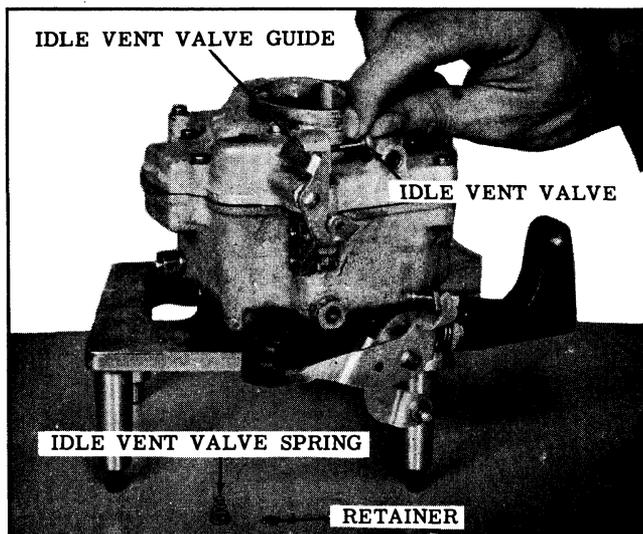

Fig. 8-125 Idle Vent Valve
2. Remove the horseshoe type clip and spring from the idle vent valve shaft, then remove the valve. Caution: Do not damage the small spring. (See Fig. 8-125)